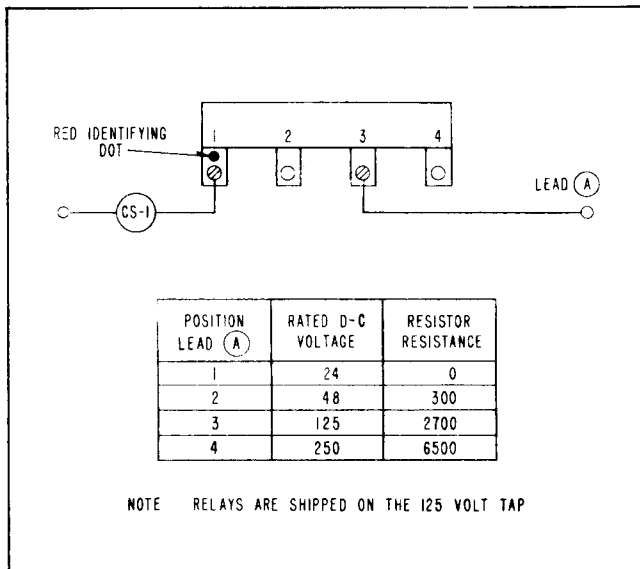

Fig. 6. Selection of Proper Voltage Tap for Auxiliary Switch (CS-1) Operation.
No setting required on the CS-1 unit except for the selection of the required 24, 48, 125 or 250 voltage on the tapped resistor. This connection can be made by referring to Fig. 6.
Connect lead (A) to proper terminal per Fig. 6. Block directional unit (D) and I contacts close and energize trip circuit with rated voltage. Contacts of